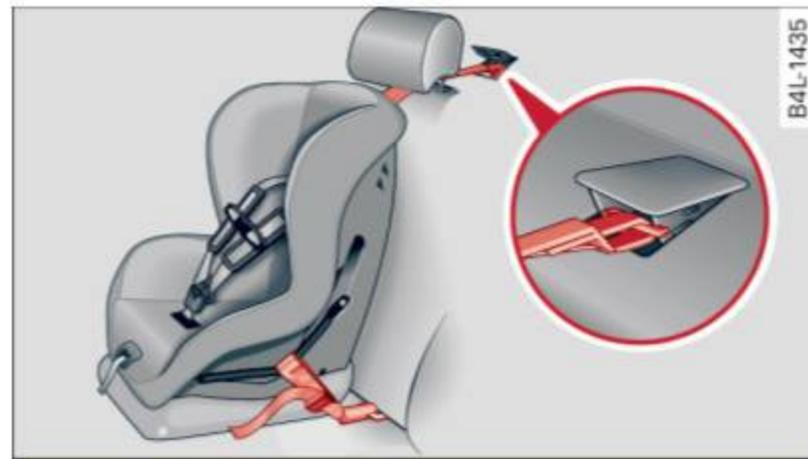

Fig. 172 Sedan Tether strap: proper routing and mounting
- ▶ Guide the upper tether strap **under** the rear head restraint ⇒ *fig. 172* or ⇒ *fig. 173* (raise the head restraint if necessary).